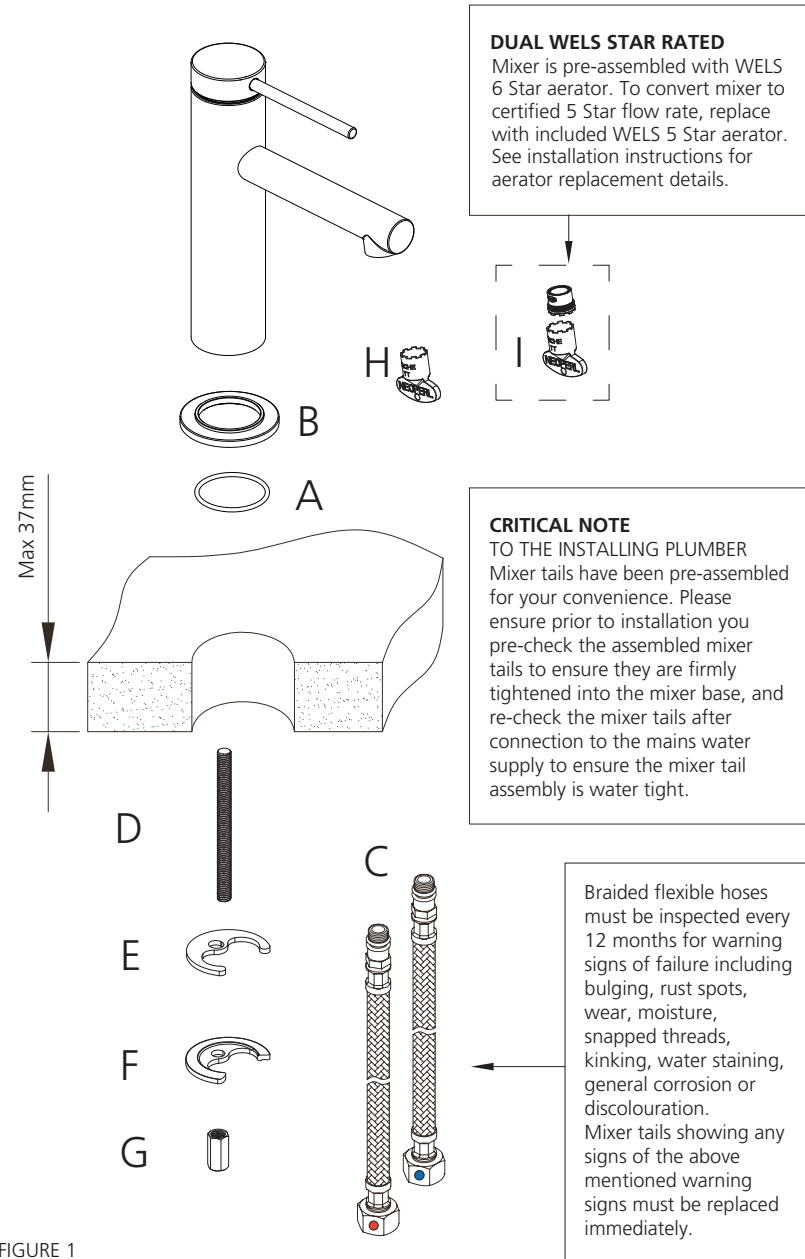

FIGURE 1
**N.B To convert to a 5 Star WELS compliant mixer, the installed aerator is to be removed using the Aerator key (H) and replaced with the included 5 Star WELS aerator (I).**
3. Ensure Product is complete as per exploded drawing (Figure 1).
6. Ensuring bench Sealing Washer (A) is in place on base of Mixer Dress Ring (B), firmly screw the Mixer Tails (C) into base of the Mixer being careful to avoid damage to the o'ring seals. The Mixer Tails are colour coded, red for hot and blue for cold and the mixer base inlet holes are stamped with 'H' for hot and 'C' for cold. Hand tighten only.
7. Screw Threaded Rod (D) into base of Mixer.
8. Feed the Mixer Tails(C) through the Mounting surface, each end alternatively and position the mixer on the mounting surface ensuring the Sealing Washer (A) is positioned correctly in Mixer dress ring (B).
9. Slide Rubber Horse Shoe (E) onto Threaded Rod (D) followed by Metal Horse shoe Plate (F).
10. Using Fixing Nut (G) tighten Mixer to mounting Surface.
12. **Ensure the Mixer Tails (C) are not kinked, bent, stretched or twisted when assembling to the mains water supply. The mixer tail connection between the mixer and the water supply must have a natural curve (minimum bend radius 30 mm).**